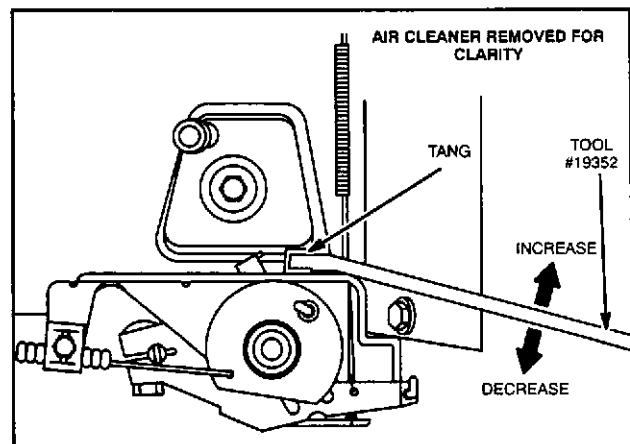

Fig. 15 - Adjusting Top No-Load Speed
6. Move control throttle lever to "FAST" position and check engine RPM with Tool #19200 or equivalent. Bend tang with Tool #19352 to obtain desired Top No Load RPM, Fig. 15.